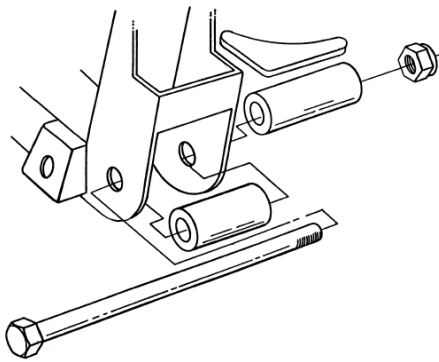

Figure 2- Crossmember Spacers Install
5. If you purchased a complete I.F.S. Package from HEIDTS, it was supplied with Full Lower A-Arms. Begin by installing the Spacers onto the crossmember. The holes where the lower control arms attach to the Crossmember must be enlarged to 5/8". Mount the Crossmember Spacers and the Rear Spacers which were supplied with the Lower Control Arms onto the Crossmember as shown in **Figure 2** using the supplied Inner Bushing Bolts, Nuts and a temporary spacer under the Nuts. DO NOT use the A-Arms for this operation as the welding heat will melt the rubber bushings. Tighten the Bolts and Nuts tight. Weld the Rear Spacers to the Crossmember all around. Weld the Crossmember Spacers as far as possible inside the crossmember on both ends. Position the Gussets horizontally as shown, not vertically, against the Rear Spacers and the back of the Crossmember. Weld Gussets to Spacers and Crossmember. When it cools, remove the bolt.